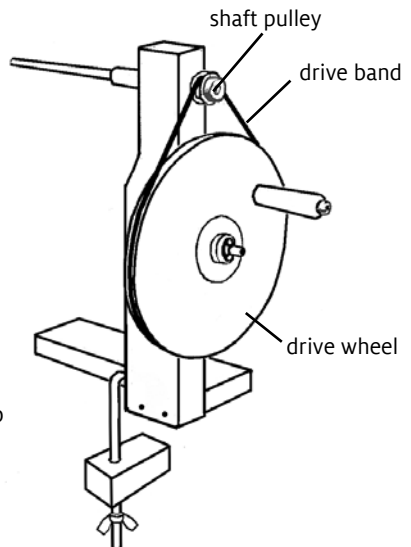

Figure 2
3. Tighten the set screw securely with the hex wrench. Install the rubber drive band around the shaft pulley and the drive wheel (figure 2), and you are ready to use your bobbin winder.